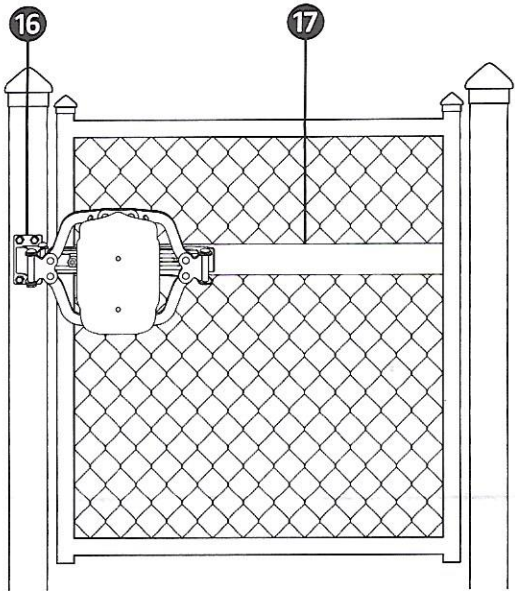

figure 6
**Round Metal Post:** Weld an "L" angle or plate 16 to the post so the mounting surface is parallel to the door or gate face in the closed position. Align per instructions and clamp the **Bracket Hinge** to the new plate. Then bolt (not included) or weld into place (figure 6).
Some metal gates do not have the proper mounting surface; for example as with a chain link gate. A wooden or metal strip 17 (not included) wide enough to mount on the **Tie Bar Plate** (approximately 2") will be needed. Bolt or weld the strip horizontally side to side across the gate's wire mesh. Now following the Installation Procedure Step 2 the **Tie Bar Plate** can now be mounted to the gate (figure 6).